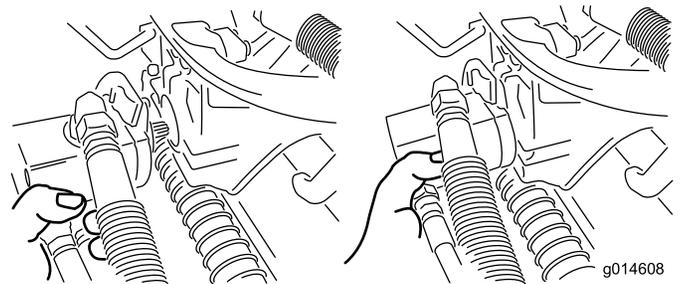

Figure 47
3. Move the motor to the storage location on the front of the suspension arm (Figure 47).